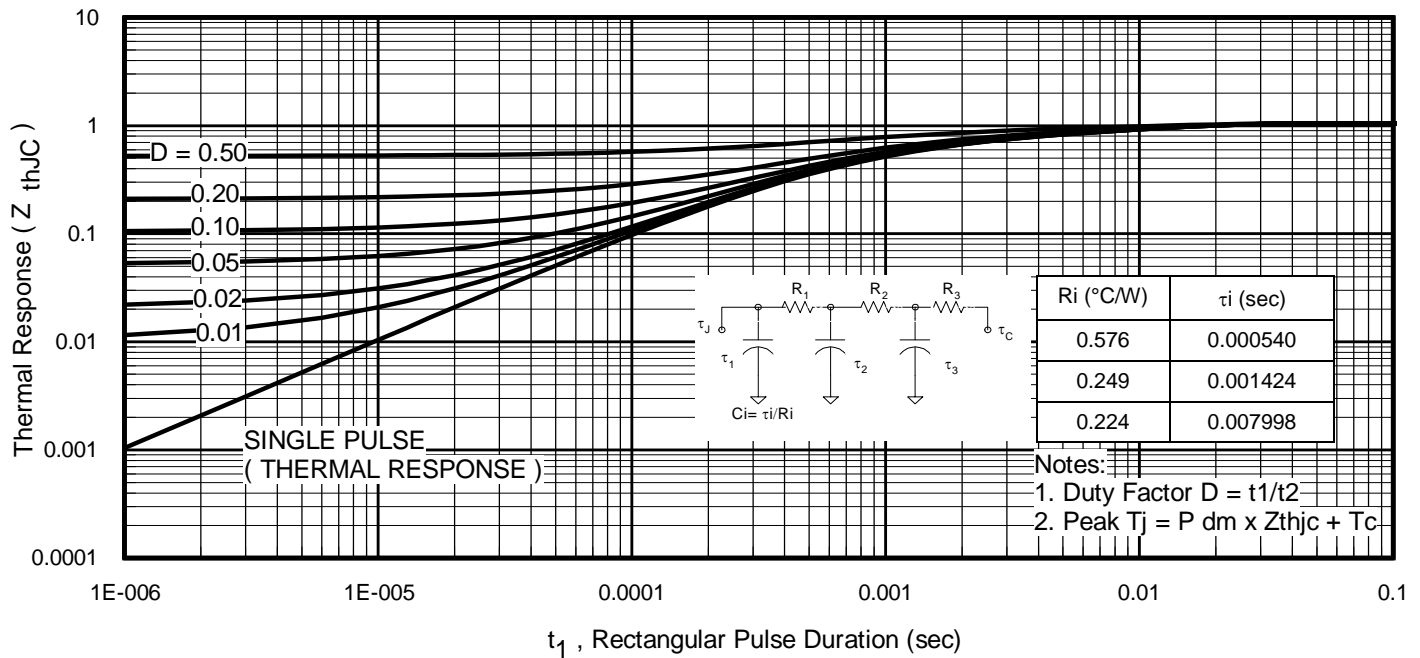
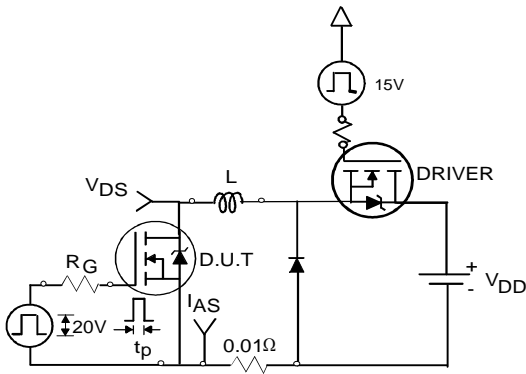

Fig 11. Maximum Effective Transient Thermal Impedance, Junction-to-Case
Fig 12a. Unclamped Inductive Test Circuit
- ① Repetitive rating; pulse width limited by max. junction temperature. (See fig. 11).
- ② starting T_J = 25°C, L = 0.28mH, R_G = 25Ω, I_{AS} = 33A, V_{GS} = 10V. Part not recommended for use above this value.
- ③ Pulse width ≤ 1.0ms; duty cycle ≤ 2%.
- ④ C_{OSS eff.} is a fixed capacitance that gives the same charging time as C_{OSS} while V_{DS} is rising from 0 to 80% V_{DSS}
- ⑤ Limited by T_{Jmax}, see Fig.12a, 12b, 15, 16 for typical repetitive avalanche performance.
- ⑥ This value determined from sample failure population. 100% tested to this value in production.
- ⑦ When mounted on 1" square PCB (FR-4 or G-10 Material). For recommended footprint and soldering techniques refer to application note #AN-994.
- ⑧ Refer to D-Pak package for Part Marking, Tape and Reel information
3. Equation below based on circuit and waveforms shown in Figures 12a, 12b.
$Z_{thJC}(D, t_{av})$ = Transient thermal resistance, see figure 11)